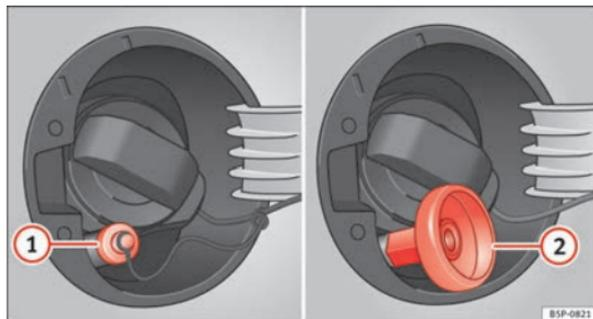

Fig. 153 Fuel tank open with LPG filler neck and adapter
- Remove the plug from the gas filler mouth ⇒ Fig. 153 ①.
- Screw the required adapter ② on the LPG gas filler neck.